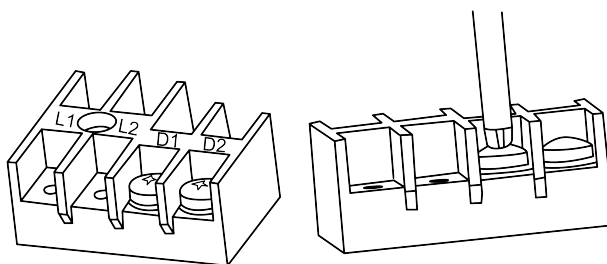

Fig. 5.4
- (1) Open the cover of electric box of indoor unit.
- (2) Let the communication cables laid out through cabling through, conduit tube or cable channel.
- (3) Connect the communication line to terminal D1 and D2 on the 4-digit wiring board of indoor unit, as shown in Fig. 5.4